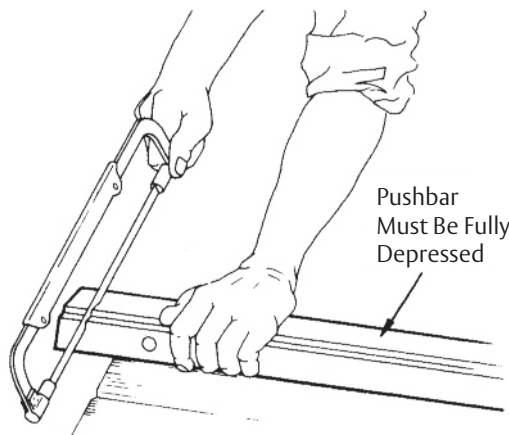

Figure 8
b. Fully depress bar and cut off square on mark. (Figure 8)